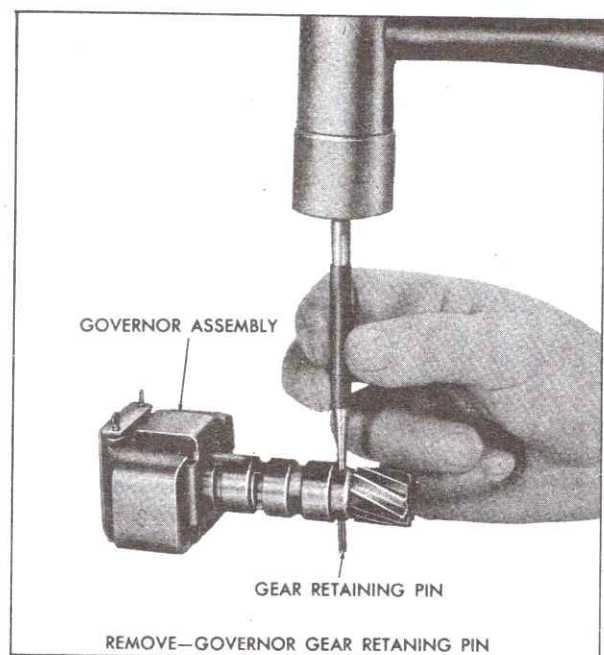

Fig. 7-49 Removing Governor Driven Gear Retaining Pin
1. Drive out governor gear retaining split pin using small punch, Fig. 7-49.